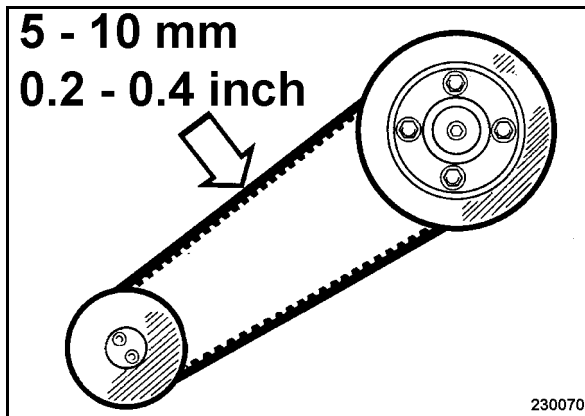

Fig. 56
- Check the condition and tension of the V-belt (Fig. 56), replace the V-belt if damaged.